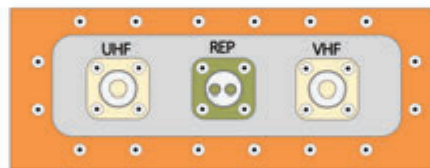

Figure 2:
1. **Antenna Installation:** (See Figure 2)